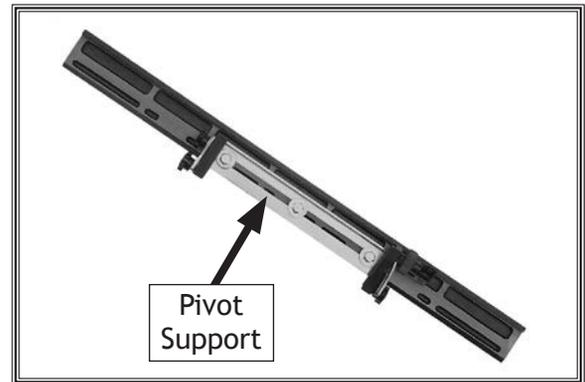

Figure 11. Pivot support attached to slide table.
3. Remove pivot support from machine, then secure it to back of slide table with three hex nuts and flat washers removed in **Step 2**, as shown in **Figure 11**.